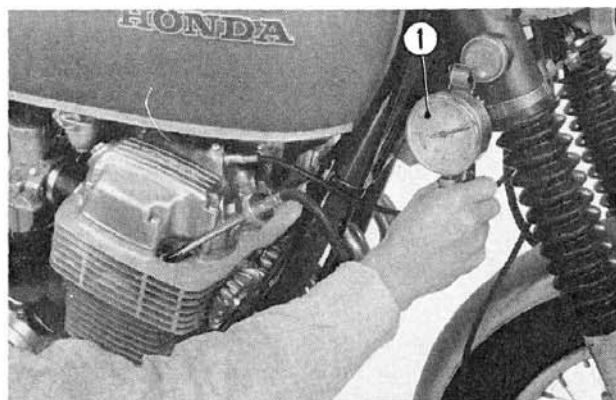

Fig. 18-1 ① Compression gauge
- d. Crank the engine with the starter motor and record the highest pressure indicated on the compression gauge. (Fig. 18-1)